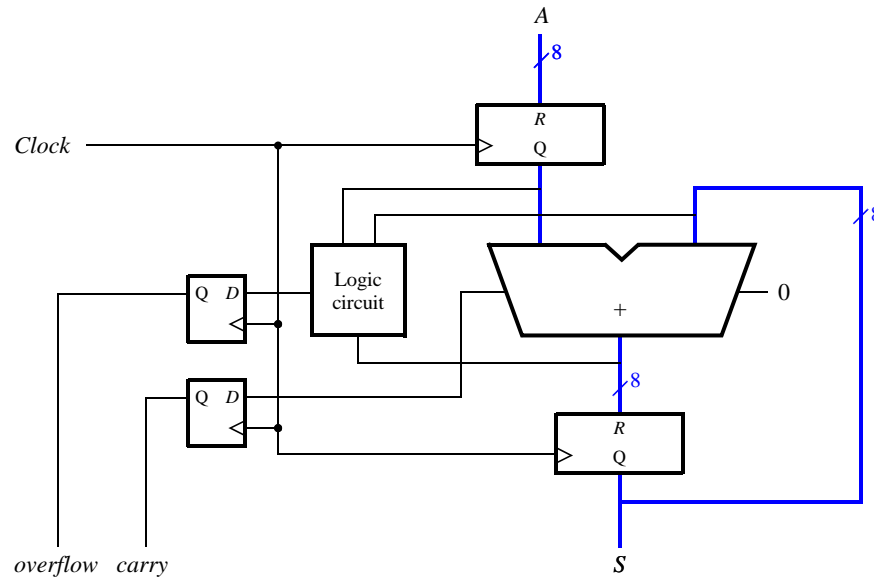

Figure 2: An eight-bit accumulator circuit.
Use this construct to implement a circuit shown in Figure 2. This circuit, which is often called an *accumulator*, is used to add the value of an input A to itself repeatedly. The circuit includes a carry out from the adder, as well as an *overflow* output signal. If the input A is considered as a 2's-complement number, then *overflow* should be set to 1 in the case where the output sum produced does not represent a correct 2's-complement result.
1. Create a new Quartus[®] project. Write VHDL code that describes the circuit in Figure 2.